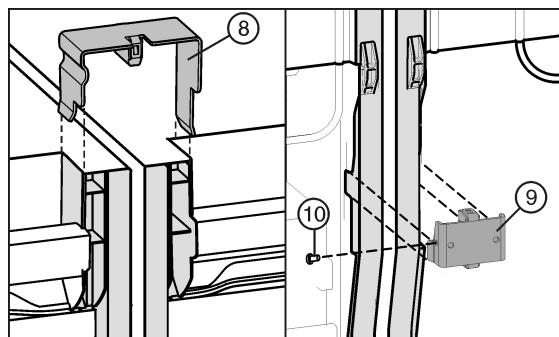

Fig. 24
- Place the connecting clamps Fig. 24 (8) at the top of the centre side walls.
- Insert the connecting angle Fig. 24 (9) underneath into the corresponding space.
- If the connecting angle is somewhat loose, fit a screw Fig. 24 (10).